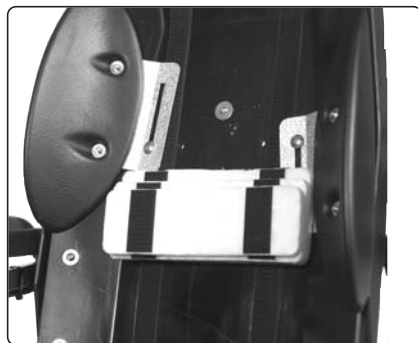

Fig 18. Trunk rest and lumbar support adjustment.
2. Adjust the trunk rest to the desired height, see Fig. 18.
2. Adjust the lumbar support as required, see Fig. 18.